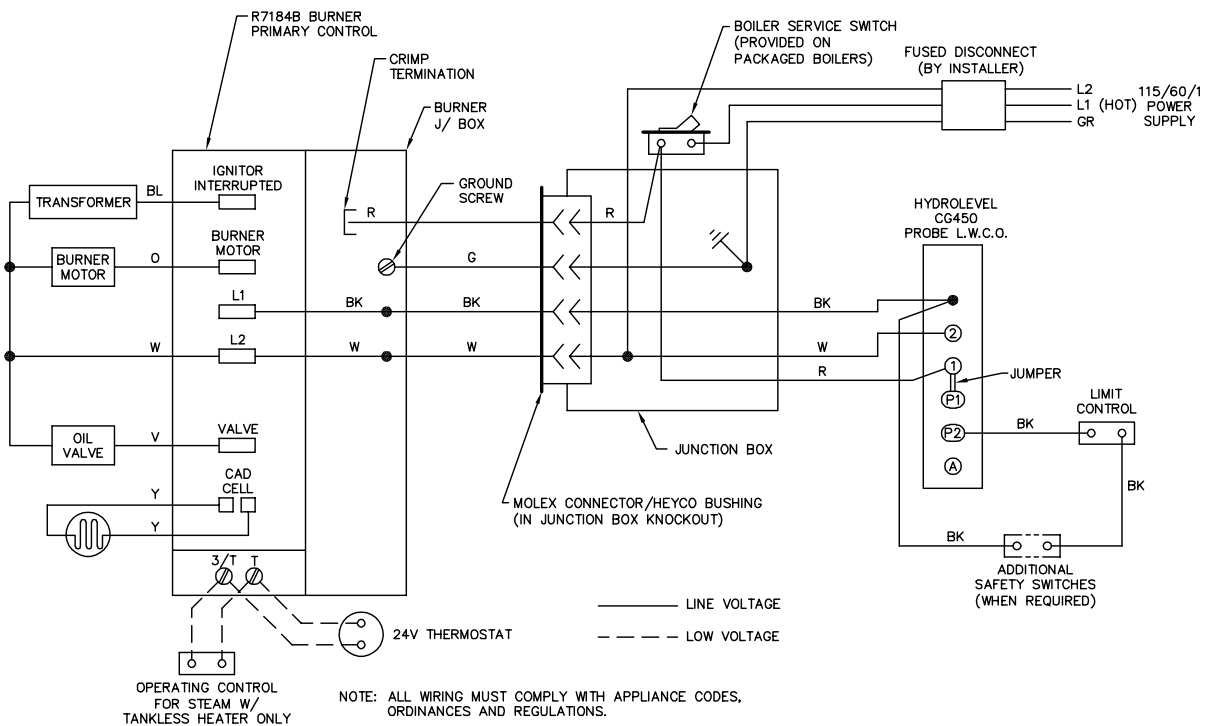

Figure 4.3: Steam Boiler with Probe Low Water Cut-Off
- Figure 4.3 - Steam Boilers with Probe LWCO